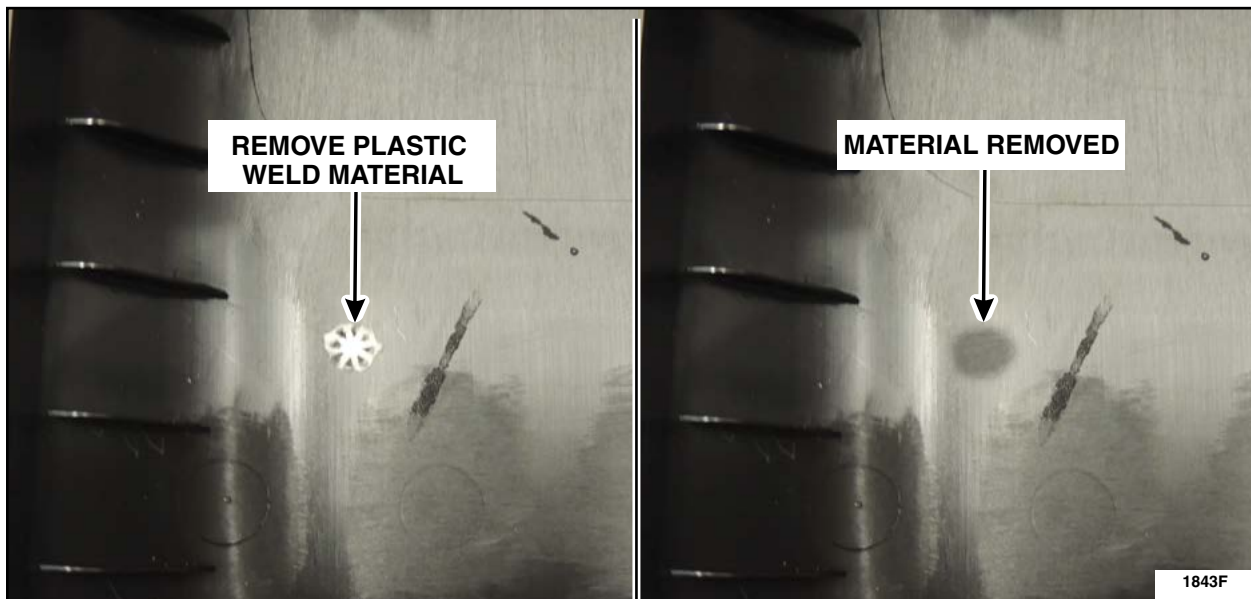

FIGURE 10
11. Lightly use a die grinder with abrasive pad to remove any remaining cloth material from the all of the plastic welds. See Figure 10.